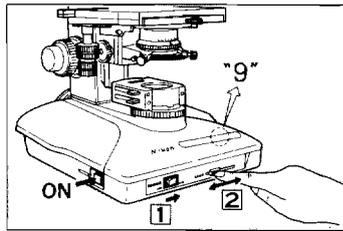

Fig.3-1
- 1) Turn the lamp on by setting the main switch to ON. Set the lamp brightness indicator to "9" using the brightness adjuster or by turning the PHOTO voltage switch to ON (Fig. 3-1).